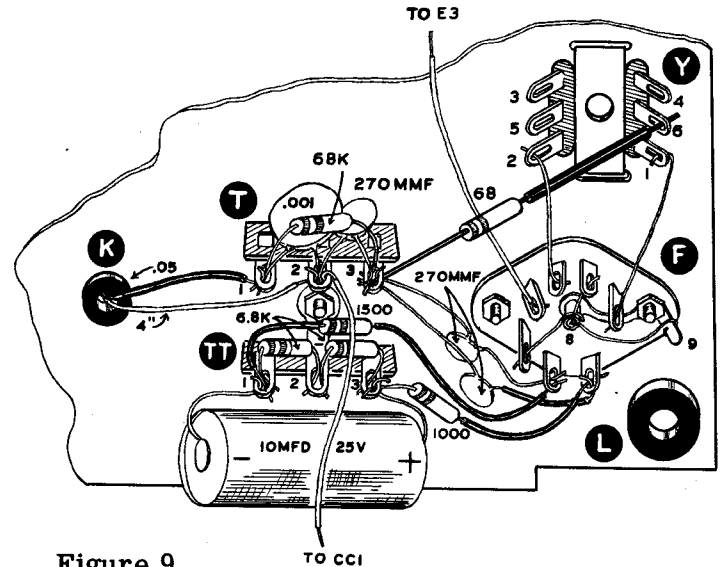

Figure 9
- (✓) Connect a 270  $\mu\mu\text{f}$  disc condenser from socket F2 (NS) to terminal strip T3 (NS). Dress close to chassis. See Figure 9.
- (✓) Connect a 270  $\mu\mu\text{f}$  disc condenser from socket F1 (NS) (use sleeving) to terminal strip T3 (NS). Dress close to chassis.
- (✓) Run a 1500  $\Omega$  resistor (brown-green-red) from socket F2 (S) (2) (use sleeving) to terminal strip TT1 (NS) (use sleeving). Dress close to chassis between strip T and TT.
- (✓) Run a 1000  $\Omega$  resistor (brown-black-red) from socket F1 (S) (2) (use sleeving) to terminal strip TT3 (NS).
- (✓) Connect a 6.8 K $\Omega$  resistor (blue-gray-red) from terminal strip TT2 (NS) to TT3 (NS). Dress between T and TT as shown in Figure 9 and Pictorial 1.